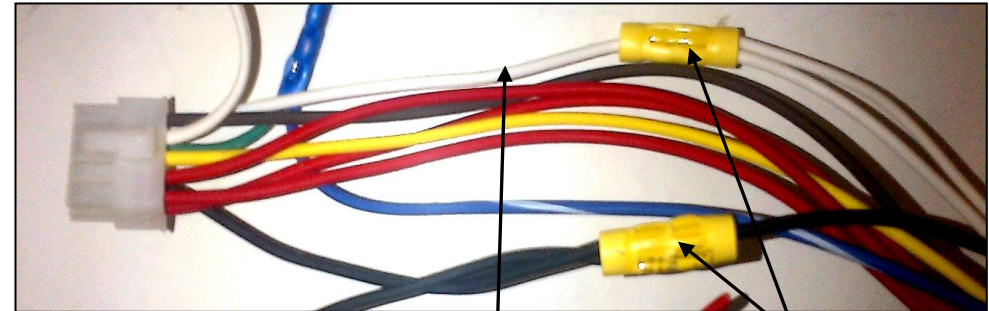

Figure 5
3. Locate the white wire on J1 Connector Pin # 1 (Engine Run Solenoid). Cut white wire about 6" down from the connector and connect white wire from digital speed sensor box to white wire going to the APU main unit with butt connection. (2 white wires connected together on one end). Connect the other end to the single white wire going to the power module J1 Connector. (Figure 5)
4. Locate the black wire on J1 Connector Pin # 4 (Ground). Cut the black wire about 6" down from the connector and connect black wire from digital speed sensor box to black wire going to the J1 Connector. (2 black wires connected together on one end). Connect the other end to the single black wire going to the APU main unit. (Figure 5)